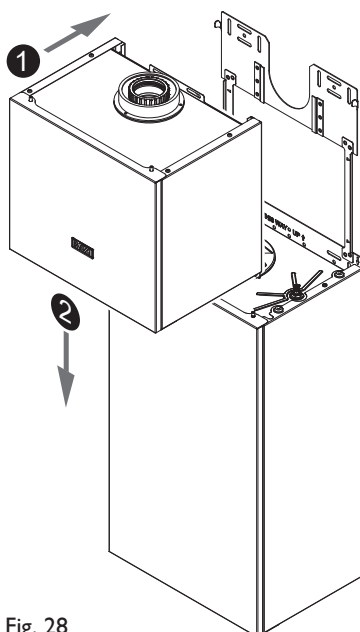

Fig. 28
5. The Assure FGHR can now be fitted (Figs. 28 & 29). Locate the slots in the rear on the upper plate and flue connection on the underside of the Assure FGHR in the boiler adaptor, taking care to not displace the seals.